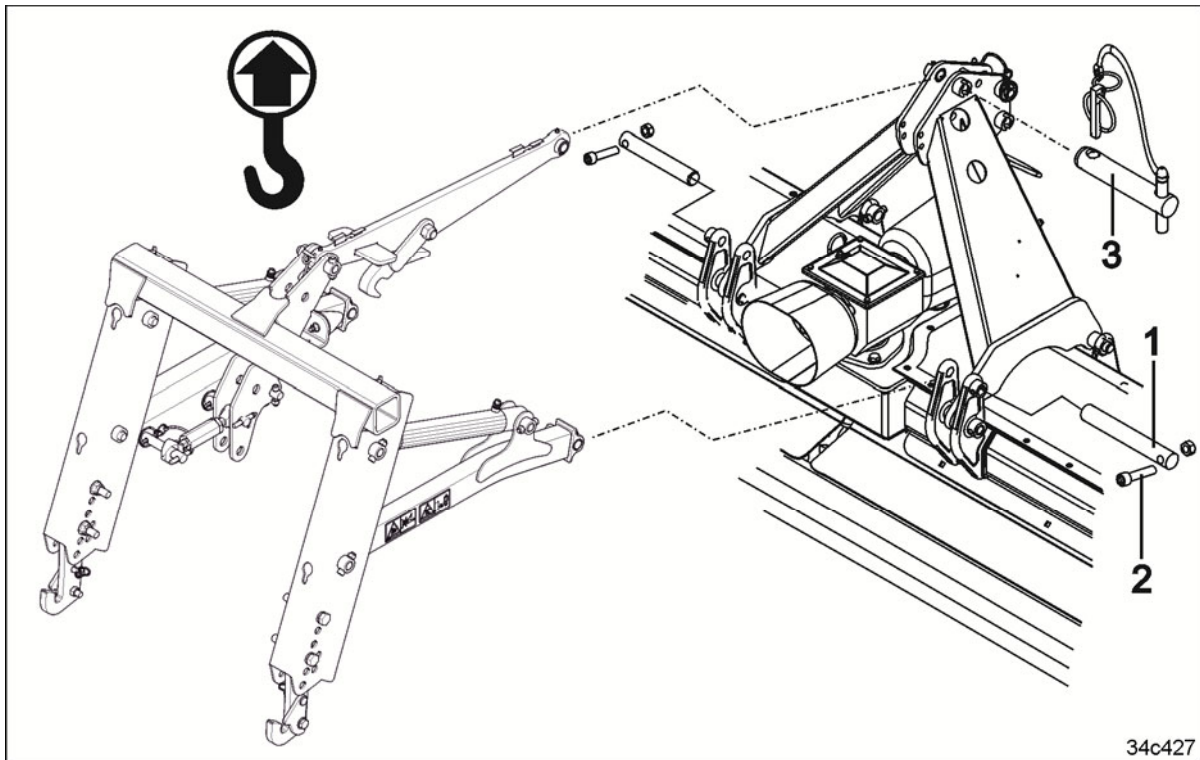

Fig. 81
5. Peg the lifting frame at the lower pivot points. Secure the pin (Fig. 81/1) with a bolt (Fig. 81/2) and nut.
6. Position the top link with a pin (Fig. 81/3) and secure with a linch pin.